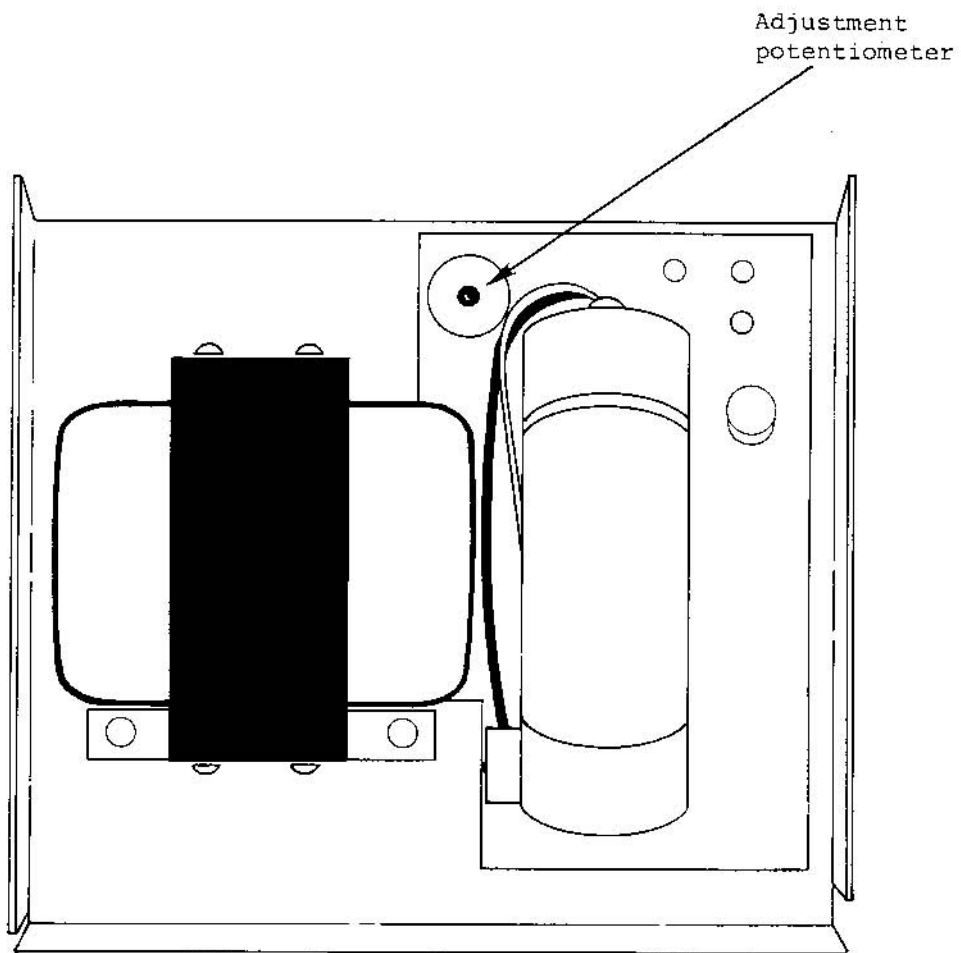

Figure 3. Power Supply Adjustment
2. Adjust the power supply potentiometer for  $+5.0 \pm .1$  VDC, figure 3.